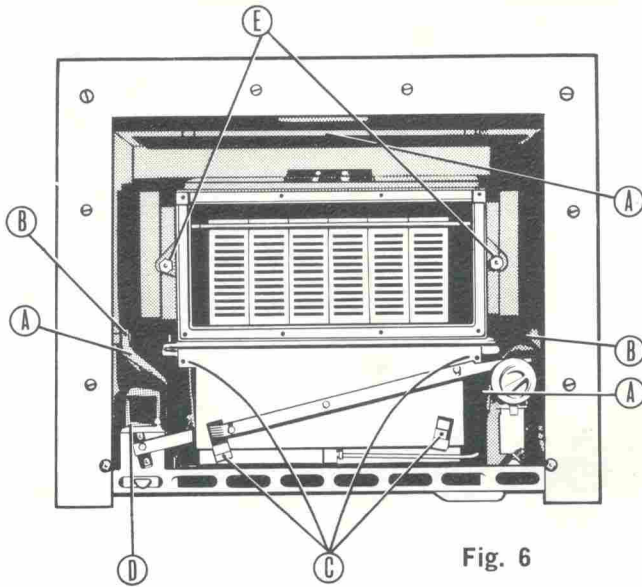

Fig. 6
2. Remove (1) indicator light box (D, Figure 6), (2) ignition bar assembly (C, Figure 6), (3) the heat shields and baffle (A, Figure 6).
3. Unscrew the two brass retaining nuts (E, Figure 6, Page 5) and remove the front glass window.